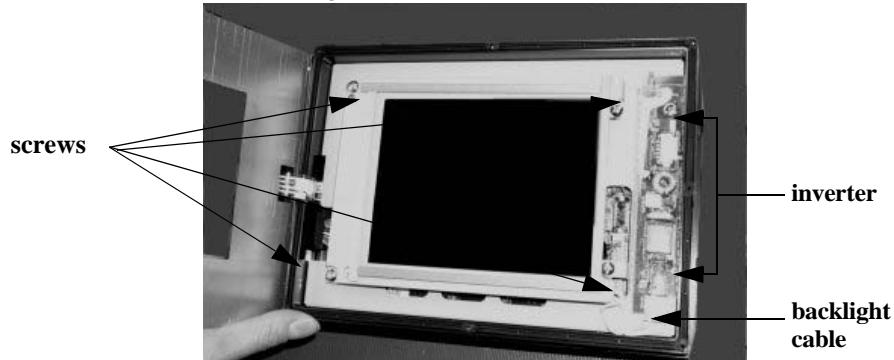

Figure 3 Disconnecting the Backlight Cables
1. Disconnect the backlight cables from the inverter, as shown in *Figure 3*.
2. Remove the four screws that hold the display unit in place. See *Figure 3*.